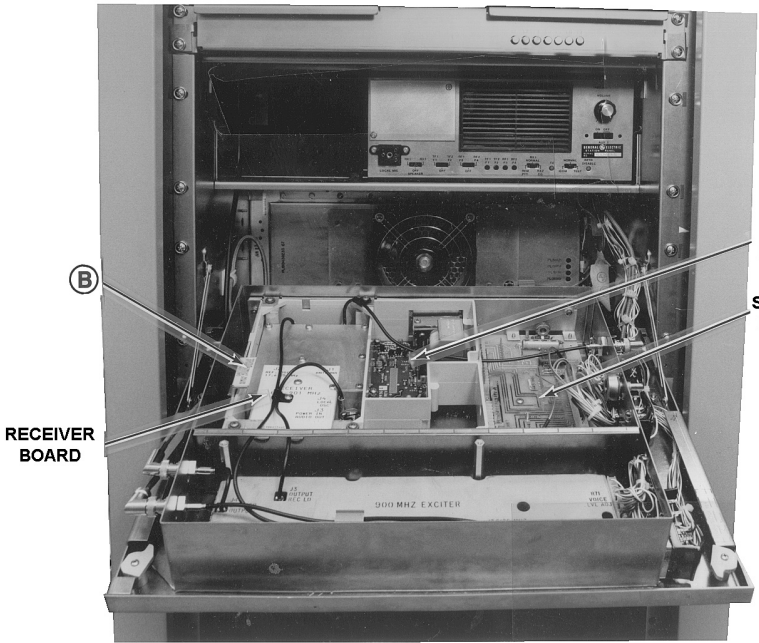

Figure 4 - Access To Receiver (Top and Bottom)
To gain access to the receiver for servicing, refer to the following procedure (see Figure 4).
- 1. Turn the two latching knobs "A" counterclockwise to unlatch the radio housing door as shown in Figure 4.